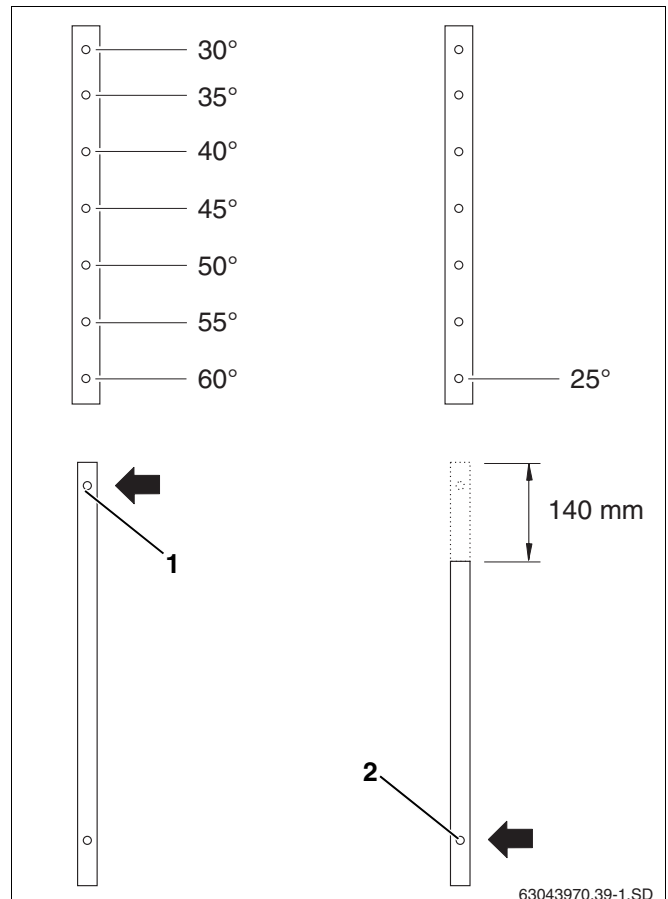
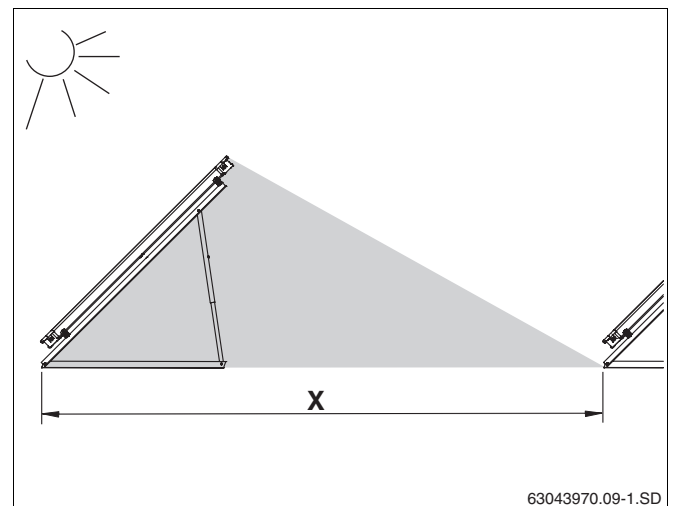

Fig. 12 Adjusting angle of inclination for collectors
Fig. 14 Shadow – clearance X
- ▶ Select holes on the upper and lower telescopic rails as shown in Fig. 12 and Fig. 14.
For installation of a collector with an angle of inclination of 30° to 60°, use the uppermost hole on the lower telescopic rail (Fig. 12, **Item 1**).
For an angle of inclination of 25° shorten the top of the lower rail by 140 mm and use the lower hole (Fig. 12, **Item 2**).
- ▶ For wall-mounted installation, use only the positions for the collector angles of inclination 30°, 35°, 40° and 45° (Fig. 14, **Item 1**).
When using multi-row arrays, note that the clearance X (Fig. 14) between the arrays must be large enough to avoid shadows falling over adjacent collectors.